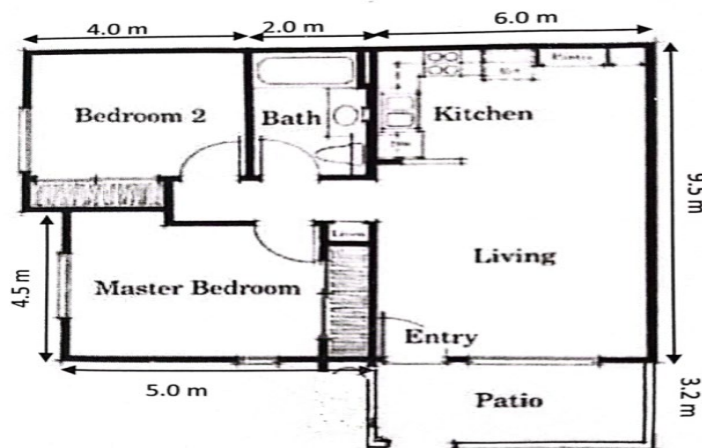

Figure B3(a) / Rajah B3(a)
- (a) Based on Figure B3(a), estimate the cost of the house construction below. Assuming the cost per m² is RM150.00.